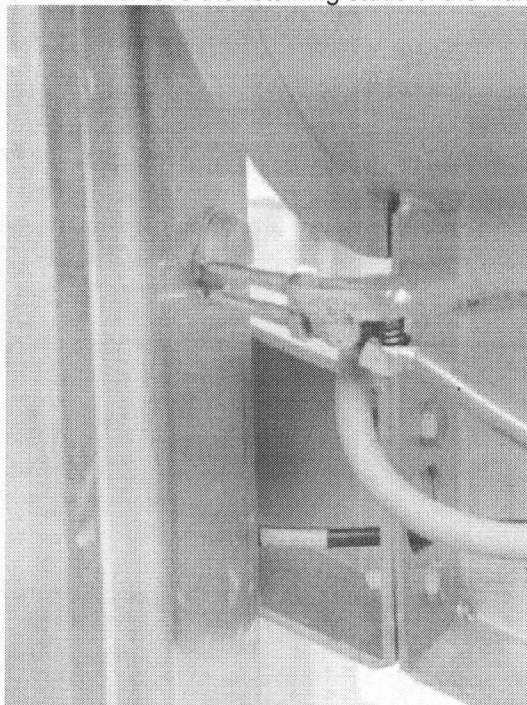

Fig. 085
5. Remove the retaining studs of the lifting belts on the running wagon (Fig. 085).